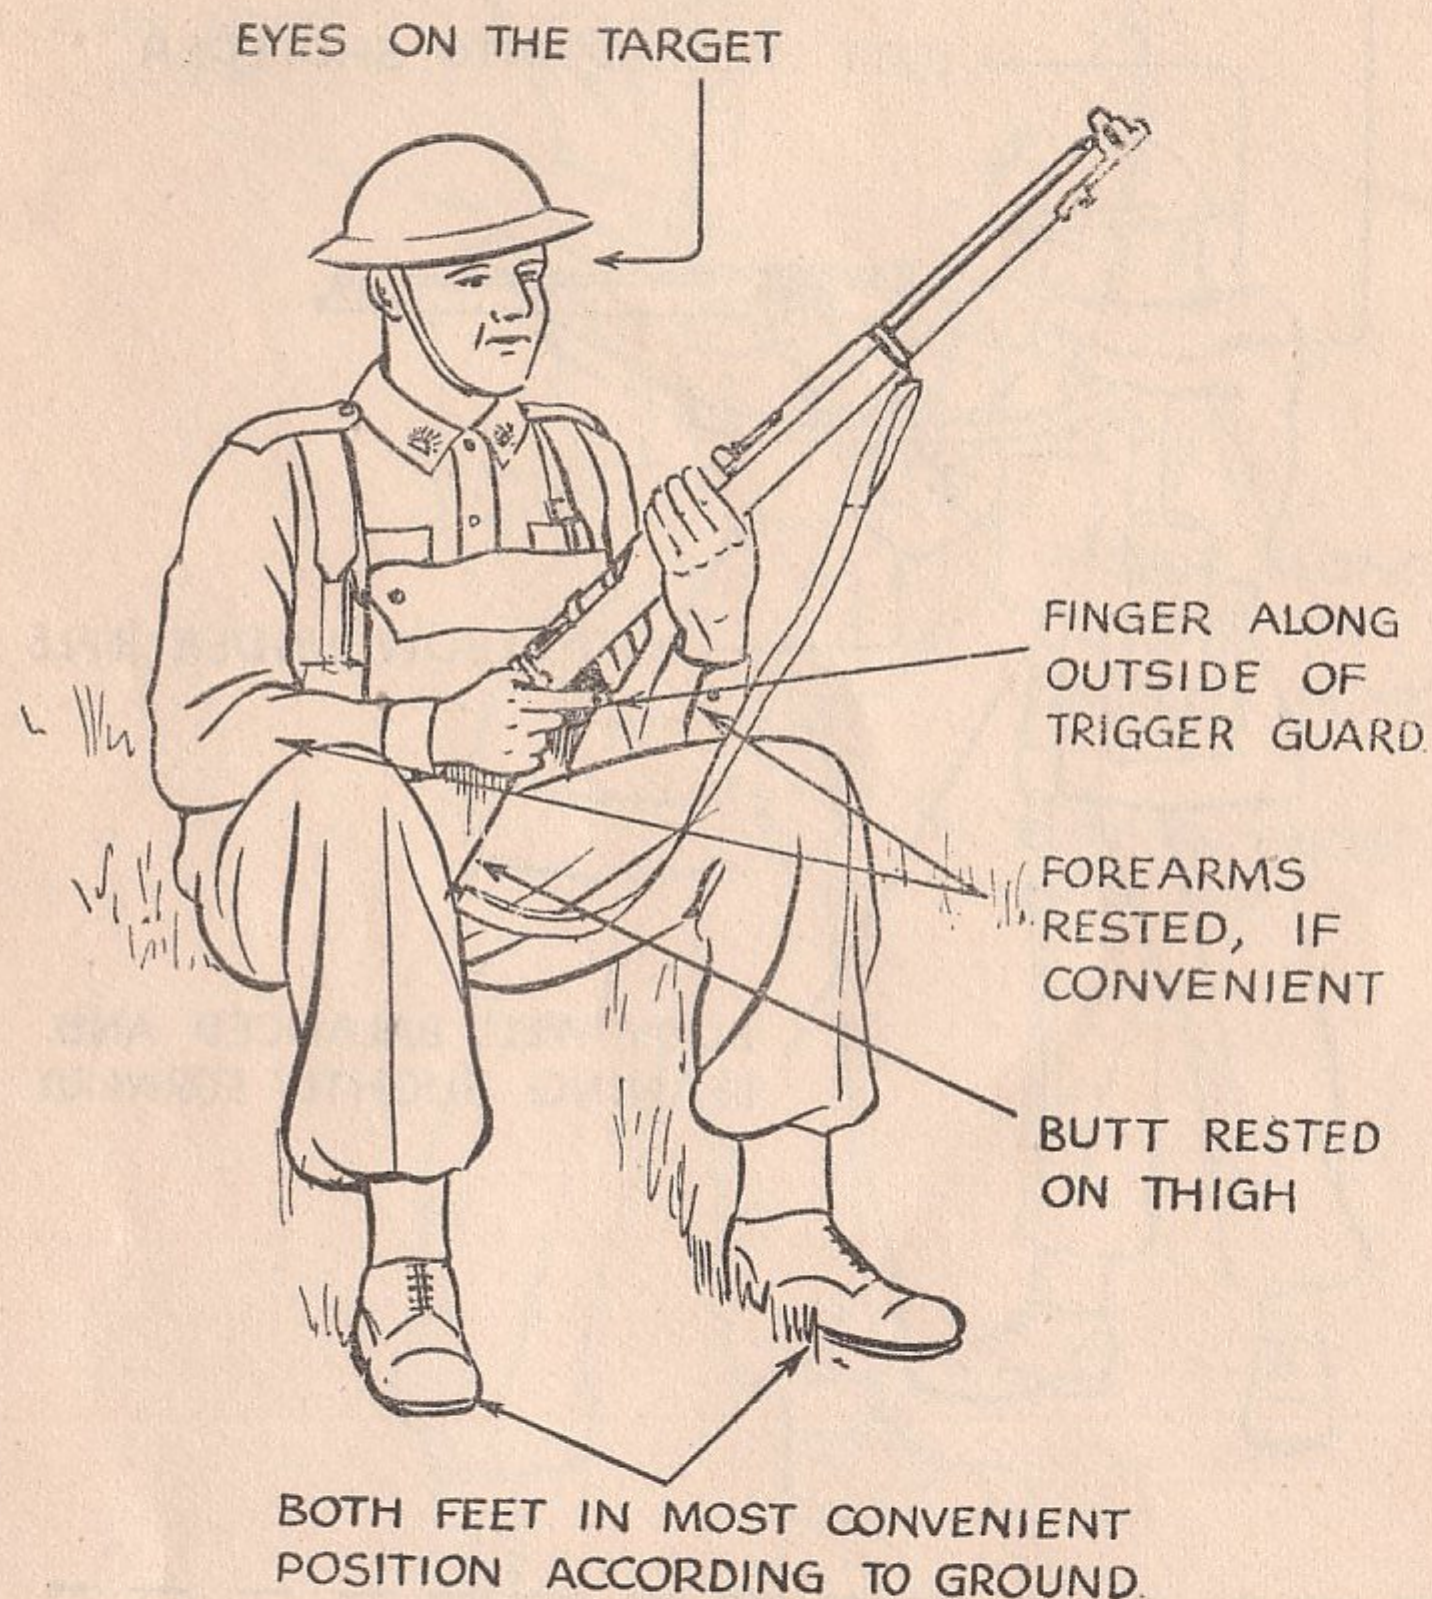

Fig. 22
10. Explain and demonstrate position (as per Figs. 22 and 23).